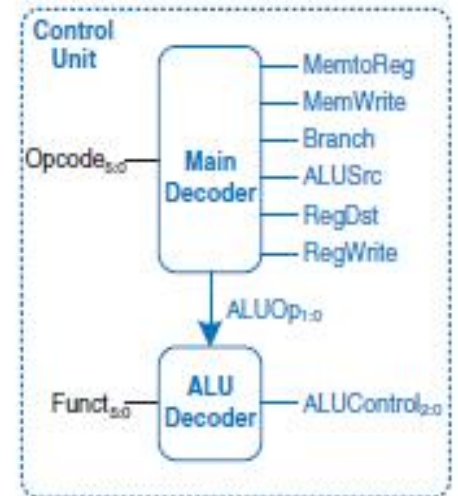

Figure 7.12 Control unit internal structure
- Thus, we will simplify our design by factoring the control unit into two blocks of combinational logic, as shown in Figure 7.12. The main decoder computes most of the outputs from the opcode.